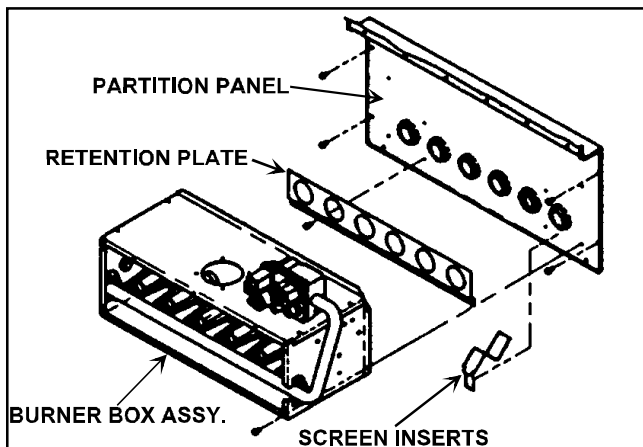

FIGURE 4 - REMOVAL OF METAL SCREEN INSERTS
5. If converting to propane gas, remove metal screen inserts, where present, from the entrance of the heat exchanger tubes. See Figure 4 and follow the a,b,c directions.
1. **IMPORTANT: Remove the metal inserts from the entrance of all heat exchanger tubes, as shown in Fig. 4.** This should be done as part of the “ORIFICE INSTALLATION” procedure.